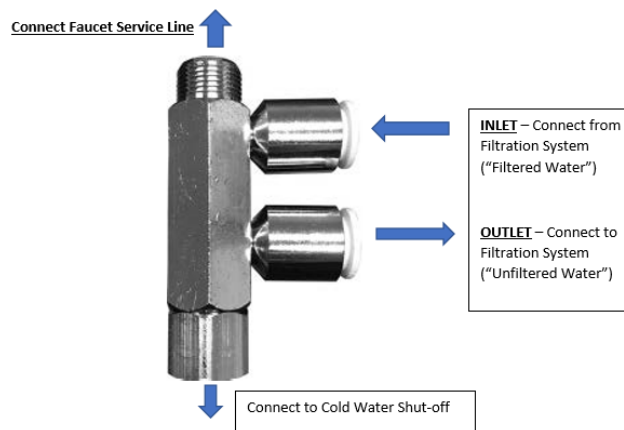

Fig. 5
6. Use the metal wrench to attach the metal valve to the cold water inlet below the sink. **DO NOT OVER TIGHTEN. (See Fig. 5 below).**
7. Connect the faucet cold water service line, that was previously connected to the shutoff valve, and reconnect to the top of the metal NRV Valve. See fig. 5. **DO NOT OVER TIGHTEN.**